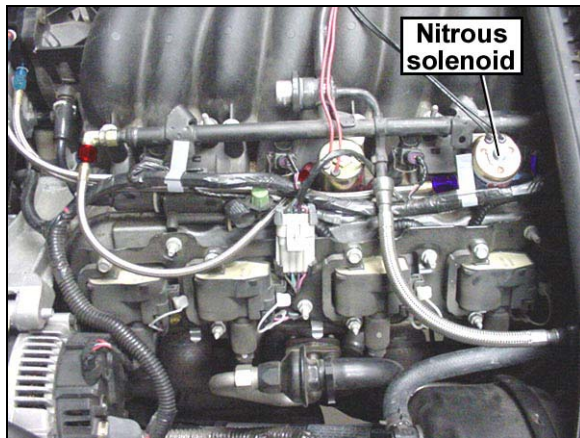

Figure 12
8. The nitrous solenoid can mount to the 4th intake bolt back (2nd from rear) as shown and the fuel solenoid can mount to the third (center) intake bolt near the regulator. The nitrous solenoid should have the **IN** sides to the rear and the fuel solenoid should have the **OUT** side to the rear (Figure 12).